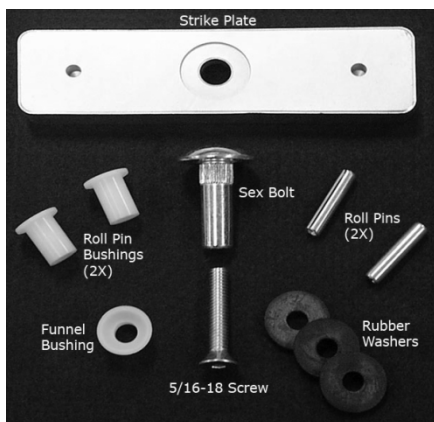

Figure 11. Strike Plate Components
1. ENSURE the following parts are available for strike plate installation (see Figure 11, "Strike Plate Components"):